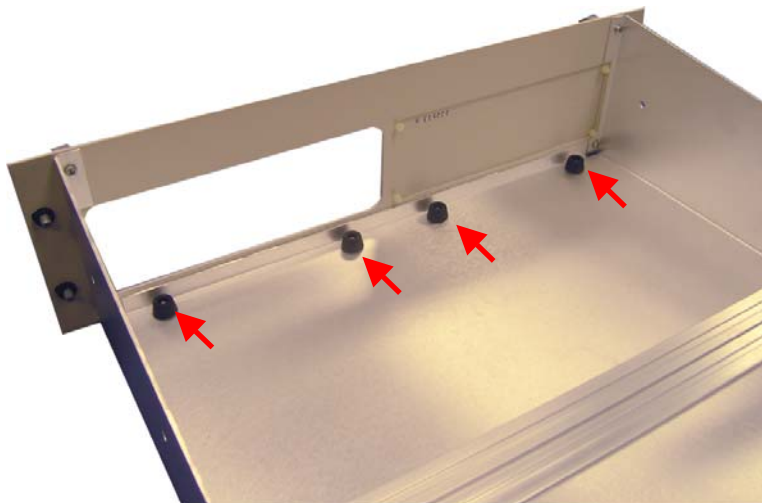

Figure 4, Locating Studs
- e) Towards the front edge of the base of the rack chassis are four locating studs fitted with push-on rubber feet (figure 4). When using the rack with the current design of case, leave the corresponding feet in place, but when fitting an instrument with an older design of case, remove the two corresponding feet from the studs.